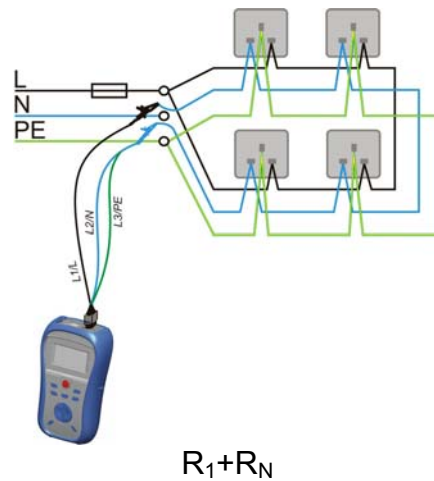

Figure 5.11: Connections for testing the  $r_1$ ,  $r_N$ ,  $r_2$  and  $R_1+R_N$  sections of the wiring in ring circuits
- ❑ **Connect** the test leads to the appropriate PE wiring (see *figures 5.11 and 5.12*).